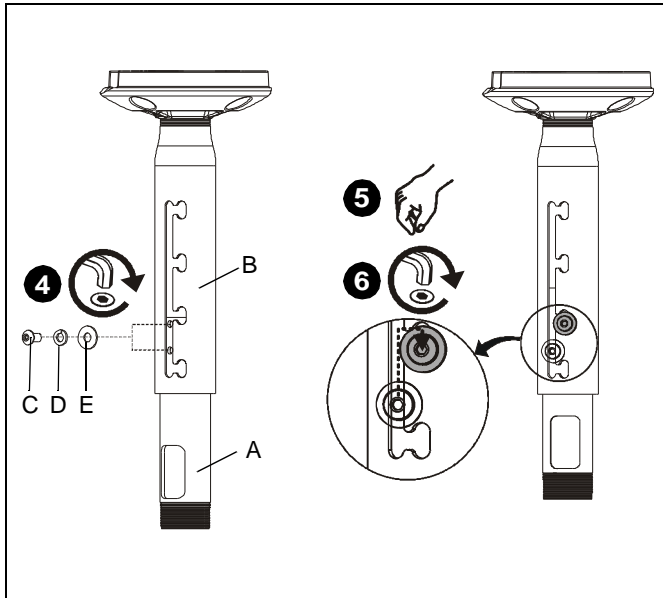

Figure 3
- Using key (J), loosely install screw (C) through lock washer (D), flat washer (E), and outer column (B) into adjustment hole in inner column (A) (See Figure 3).
- Adjust column (A or B, as applicable) to desired length, then rotate and lock into position (See Figure 3).
- Tighten screw (C) using key (J) (See Figure 3).